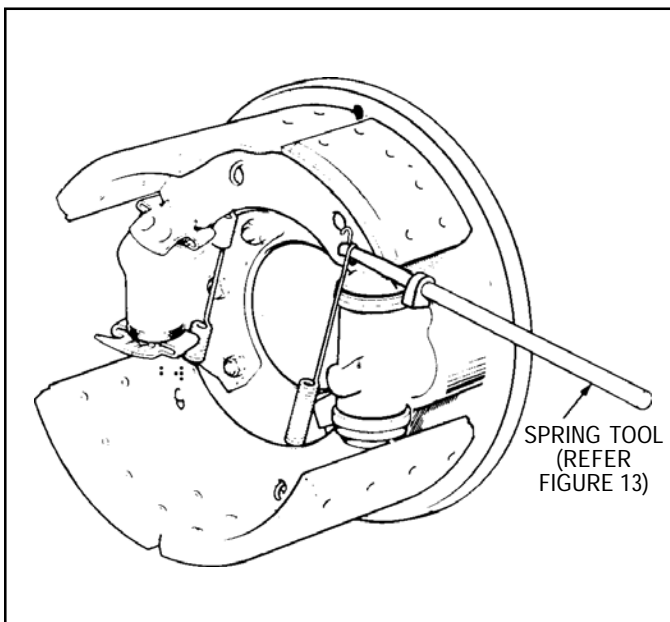

FIGURE 25 - USING TOOL TO ATTACH SPRING
6. Insert the end of the tool into the loop on the end of the shoe return spring. Using the expander unit body as a fulcrum, unhook the spring from the brake shoe web, *Figure 25*. Be careful not to damage the rubber dust boot. Note: *The brake shoe return spring is hooked into the back side of the shoe web.*
4. Attach the swan neck end, end opposite the loop in the spring, of each return spring to the brake shoe web as shown in *Figure 25*. Using the tool, *Figure 13*, hook the other end of the return spring into the shoe web.